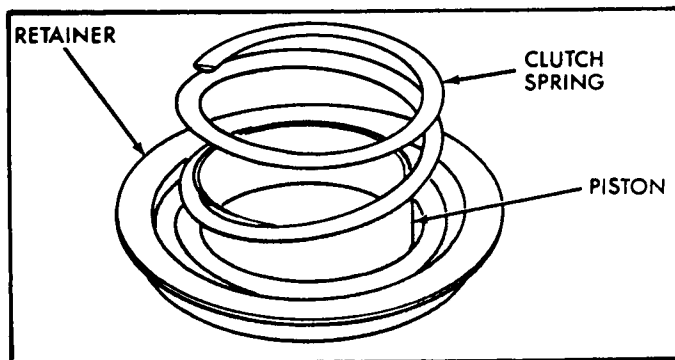

Figure 62
9. Position the front clutch return spring on piston, as shown in Figure 62.